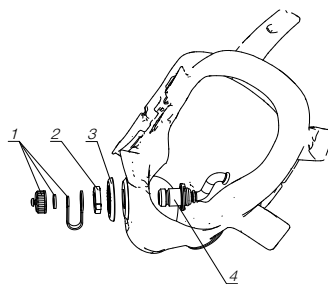

Fig. 10
1. Unscrew and remove security cap with strap, nut and washer (figure 10, pos. 1-3).
2. Remove valve and nipple assy (figure 10, pos. 4).